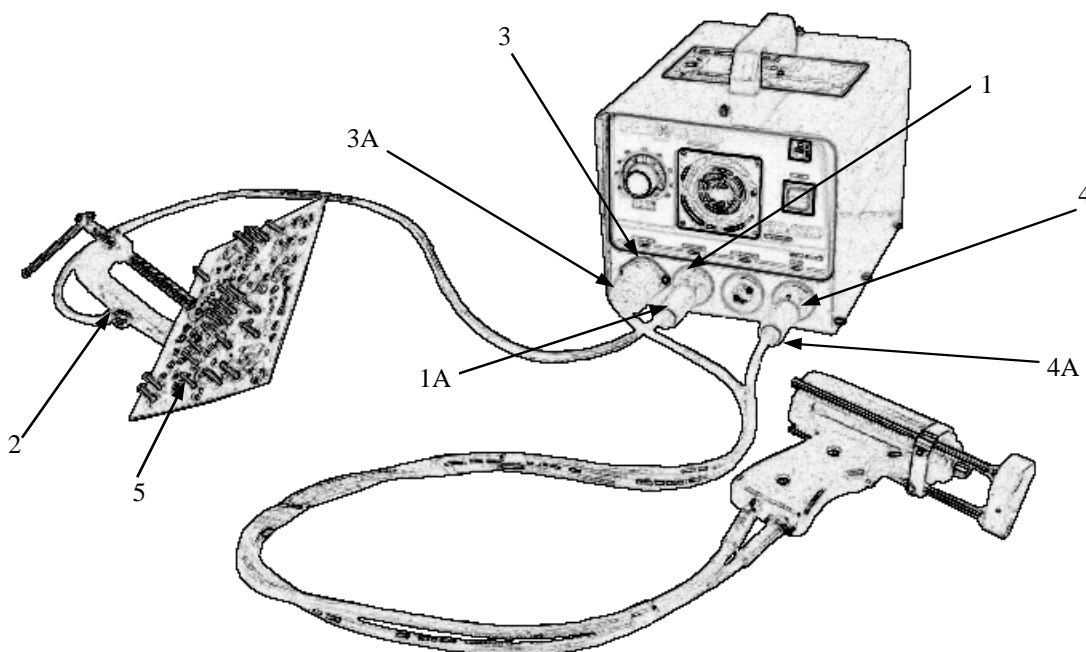

Figure 2 Straight Polarity Hook-Up
9.1 Straight Polarity (Standard Set-Up) (see Figure 2)
A. Connect ground cable connector (1A) into camlok (1). The camlok should be connected into the receptacle marked GROUND. Twist until it locks. Attach “C” clamp (2) to the workpiece (5) (CLEANED AREA).
B. Connect the gun control cable (3A) into the female receptacle (3).
C. Connect the gun weld cable (4A) into the receptacle marked GUN (4). Twist clockwise until it locks.